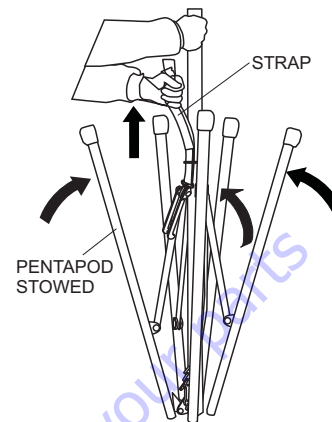

Figure 32. Stowing the Pentapod
- Continue pulling upward on the mast until all the pentapod legs are fully retracted and are stowed. See Figure 32.